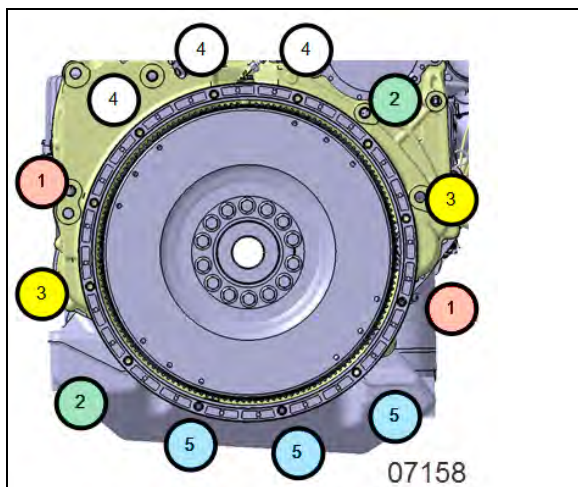

FIGURE 13: CRISS CROSS PATTERN
11. Tighten them gradually in a crisscross sequence as shown in Figure 13. Apply the following torque value: